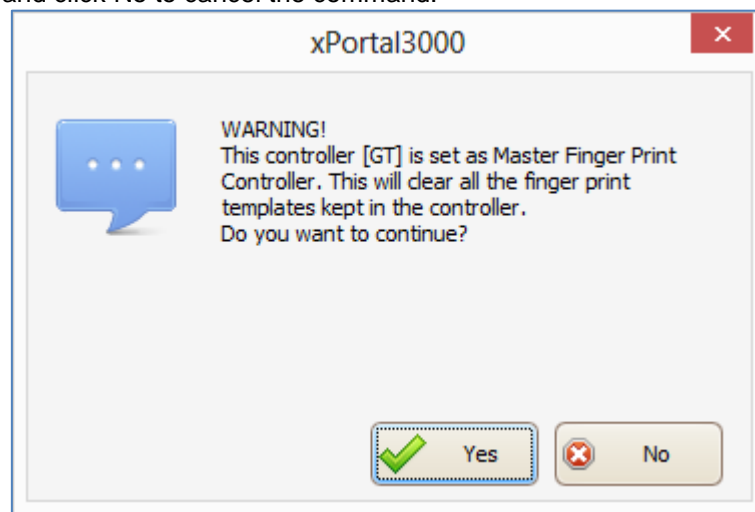

Figure 254 - Warning for Master Finger Print Controller
2. Click on  button. If you select all card holders and the GT controller is set as Master Finger Print Controller, a warning dialog box will be displayed (Refer **Figure 254**). Click Yes to continue and click No to cancel the command.